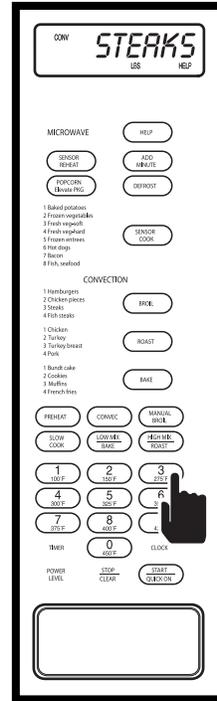

Figure 3-95.
2. Select food number. The four choices are listed to left of the BROIL key. Press the number 3 key, “STEAKS - USE - LOW - RACK - ENTER - WEIGHT” will flash on display. (See Figure 3-95)